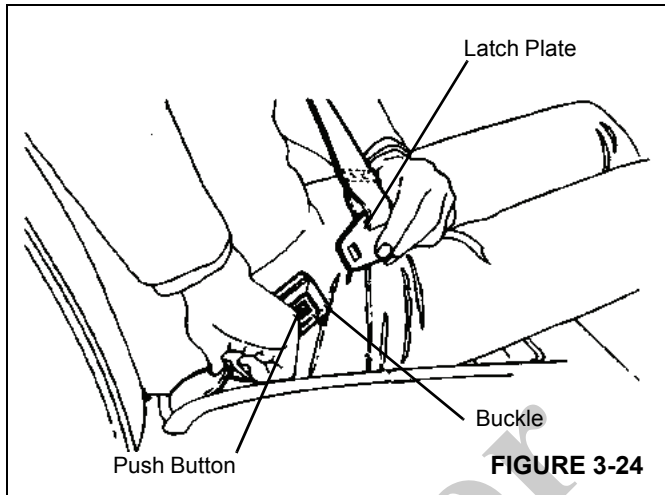

FIGURE 3-24
2. Pull the belt across your lap and push the latch plate into the buckle until it clicks (Figure 3-24).